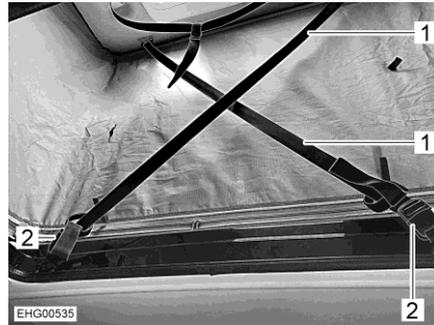

Fig. 38 Wind protection
- Pull out both retaining belts (Fig. 38,1) completely.
- Attach the retaining belts diagonally to the belt locks (Fig. 38,2).